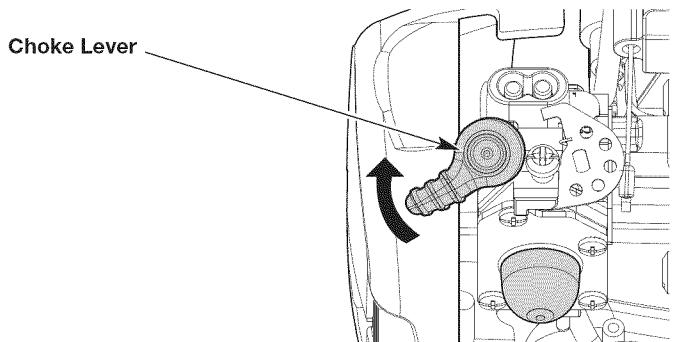

Fig. 6
4. Flip the choke lever clockwise until it clicks (Fig. 6).
- NOTE:** Always tilt the unit back slightly to bring the tines off the ground when starting the unit (Fig. 6).